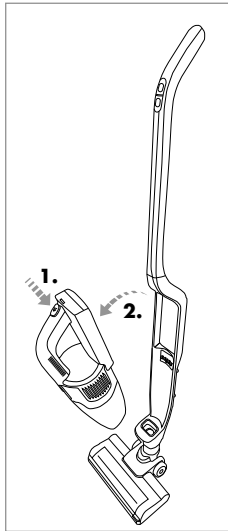

Fig. 4
- 3) To remove the hand element 3 from the handle rod 12, hold the hand element 3 by the grip 2 and press the release button 1. Pull the hand element 3 forward out of the hand element recess 14 (Fig. 4).